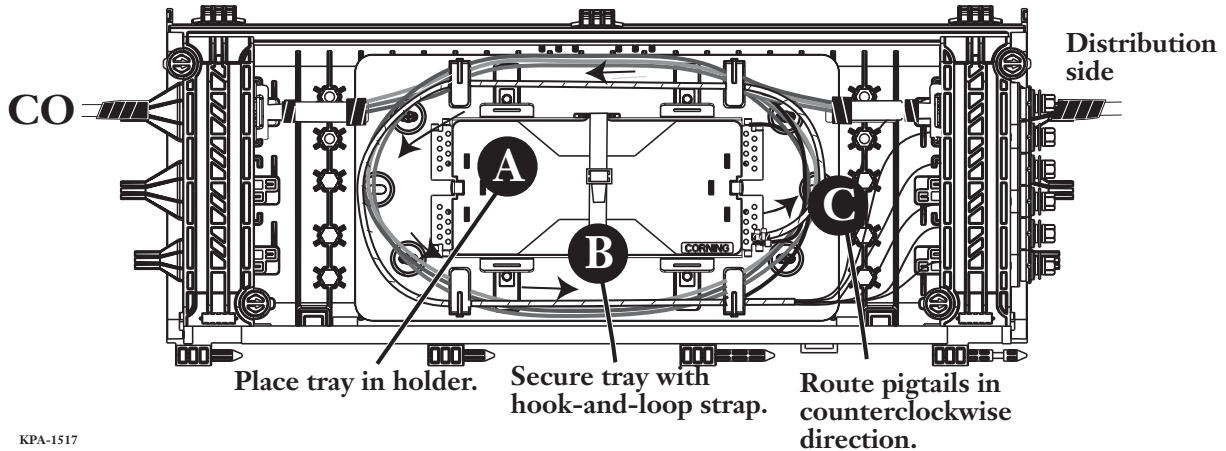

Figure 23 — Pigtail Routing with CO Cable Entering from the Left
Step 1: Place splice tray into holder as shown in Figure 23 with the cover on the tray facing outward and the pigtails exiting the tray from the bottom right corner.
- Step 3:** Secure the splice tray in the holder using the hook-and-loop strap provided (Figure 23).